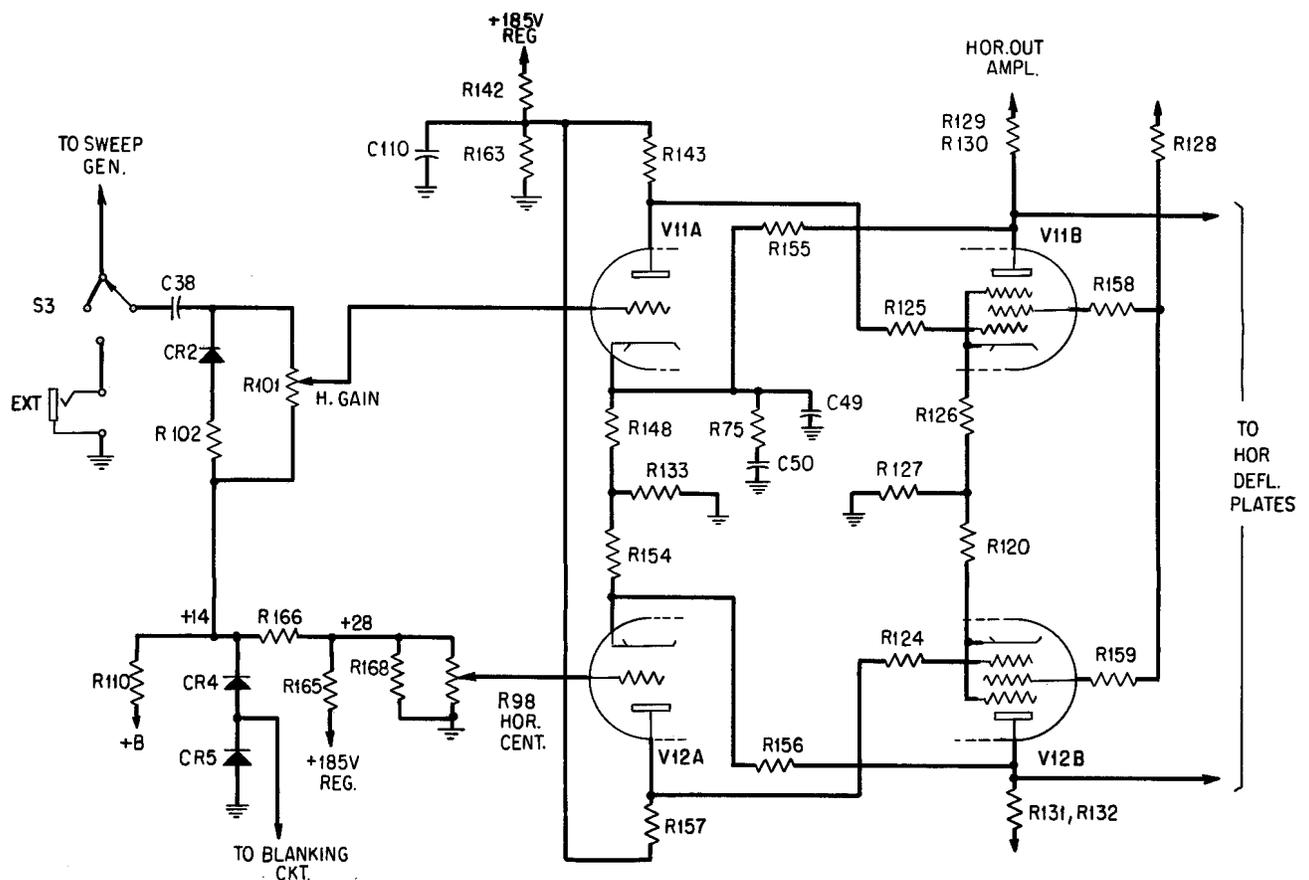

Fig. 11 — KS-15512, List 5 Oscilloscope Horizontal Amplifier Circuit
linearity of better than 95%. For NORMAL-OUT position of SWEEP selector switch S6 the saw-tooth from the cathode is fed to the horizontal amplifiers (see Fig. 11) while for the SPECIAL-IN position the inverted saw-tooth from the plate is used.
4.22 (G) Horizontal Amplifier: (See Fig. 11)